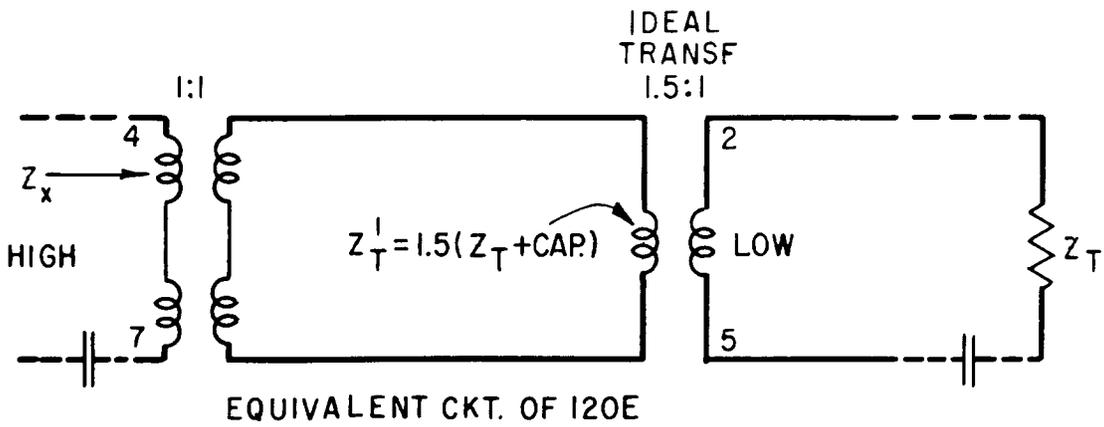

FIG. 2
1.03 The input impedance Z_x looking into the high side of the 120E coil, as indicated in Fig. 2, is found by entering the appropriate chart with the value of terminating impedance $Z_T = 1.5 (Z_T + \text{cap.})$. The input impedance looking into the low side, as indicated in Fig. 3, is given by $Z_x = 2/3 Z'_x$, where Z'_x is the value of input impedance obtained from the chart for a terminating impedance Z_T plus its associated capacitor.
Example (1): Looking into high side of 120E coil. (See Fig. 2)